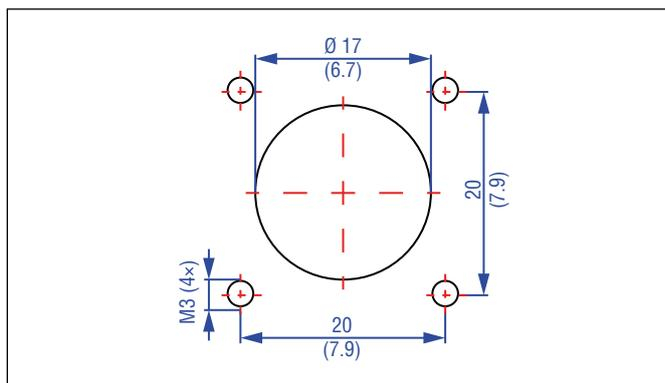

Fig. 53: Panel cut-out dimensions for the type »W« M12 square panel mount connector
- Insert the contact carrier in the desired position into the metal flange until it snaps into place. The dimensions for attaching the metal flange to the cylinder are shown in Fig. 53.